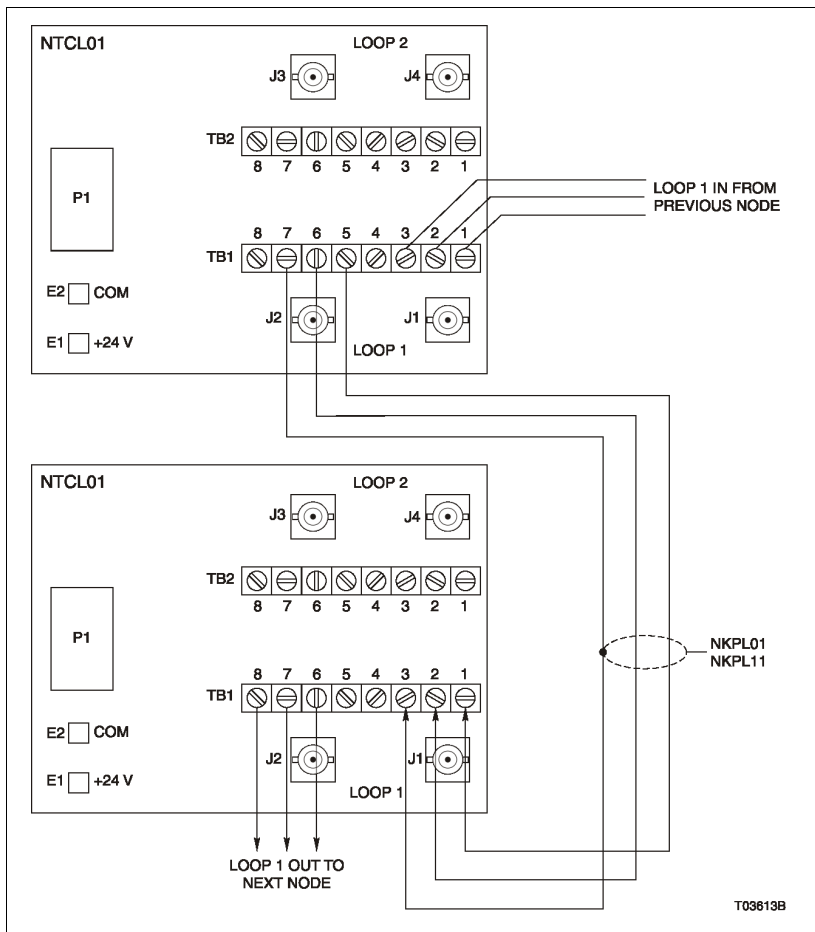

Figure PR9-3. Twinaxial Cnet Cable Connection
- ☐  Connect the cables directly to TB1 and TB2 of the NTCL01 unit when using NKPL01 or NKPL11 twinaxial cable (Fig. PR9-3). This method can be used for both intercabinet and